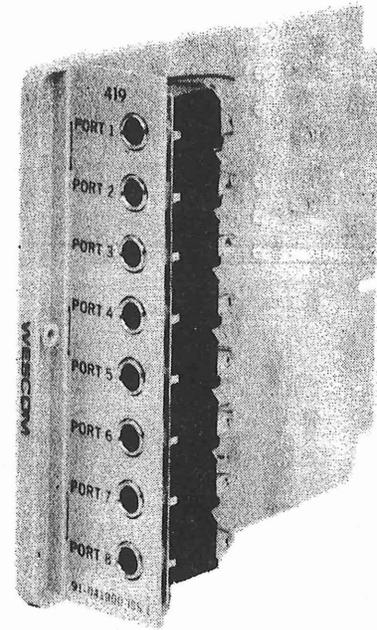

Figure 1. 419 2-Wire/8-Way Conference Bridge
1.01 This Practice provides circuit description, installation procedures, and basic testing information for the Wescom[®] 419 2-Wire/8-Way Conference Bridge (Figure 1).